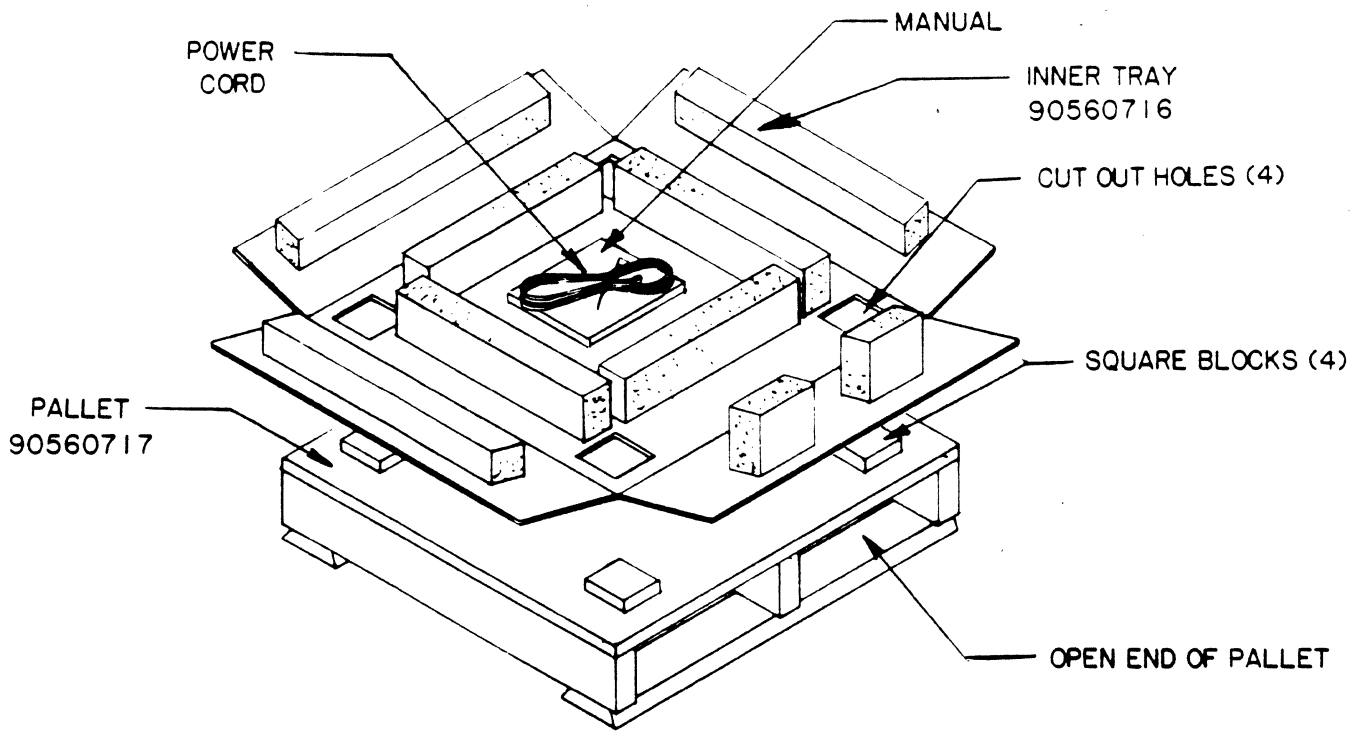

Figure 3-14. Preparing Shipping Material
- a. Position bottom inner tray onto pallet (refer to figure 3-14).
- c. Place coiled power cord and manuals inside bottom inner tray (refer to figure 3-14).